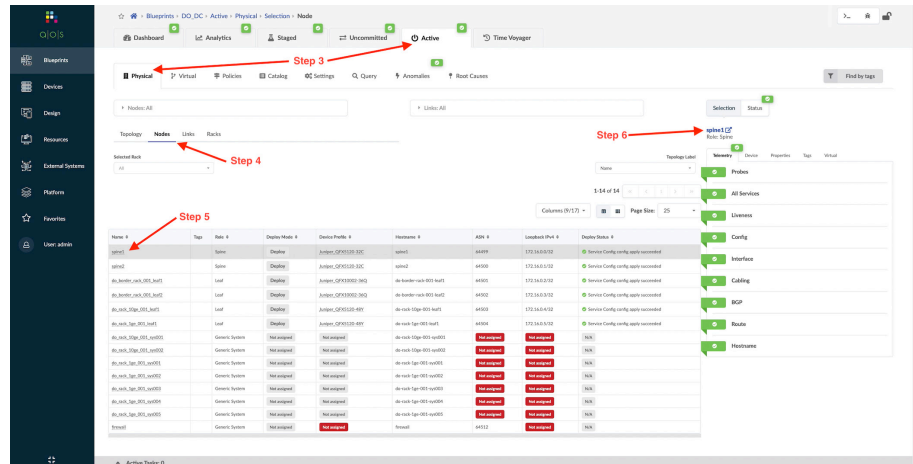

Figure 7.12 Verifying a Configlet Has Been Applied
Step 3: Go to Active > Physical. See Figure 7.12.